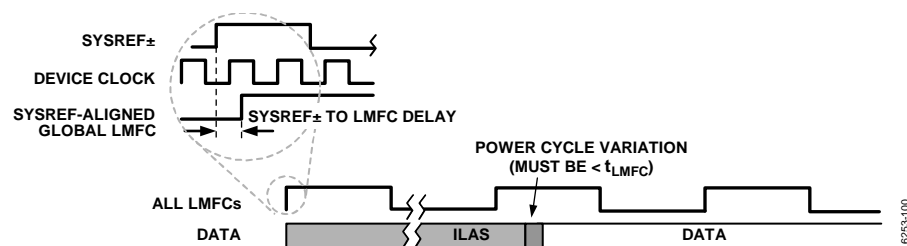

Figure 101. SYSREF± and LMFC
The JESD204B protocol organizes data samples into octets, frames, and multiframe as described in the Transport Layer section. The LMFC is synchronous with the beginnings of these multiframe. In Subclass 1 operation, the SYSREF± signal synchronizes the LMFCs for each device in a link or across multiple links (within the AD9697, SYSREF± also synchronizes the internal sample dividers). This synchronization is shown in Figure 101. The JESD204B receiver uses the multiframe
- The total latency variation across all lanes, links, and devices must be ≤ 1 LMFC period (see Figure 101). This includes both variable delays and the variation in fixed delays from lane to lane, link to link, and device to device in the system.